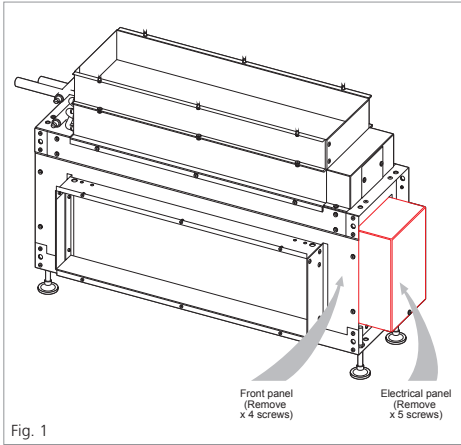

Fig. 1
1. Identify the front panel and the electrical panel (shown in red on Fig. 1 for Caspin UVC).
2. Remove the screws attaching the front panel (retain this panel for later), then remove the electrical panel to the chassis so that it becomes free (See Fig. 1 and 2).